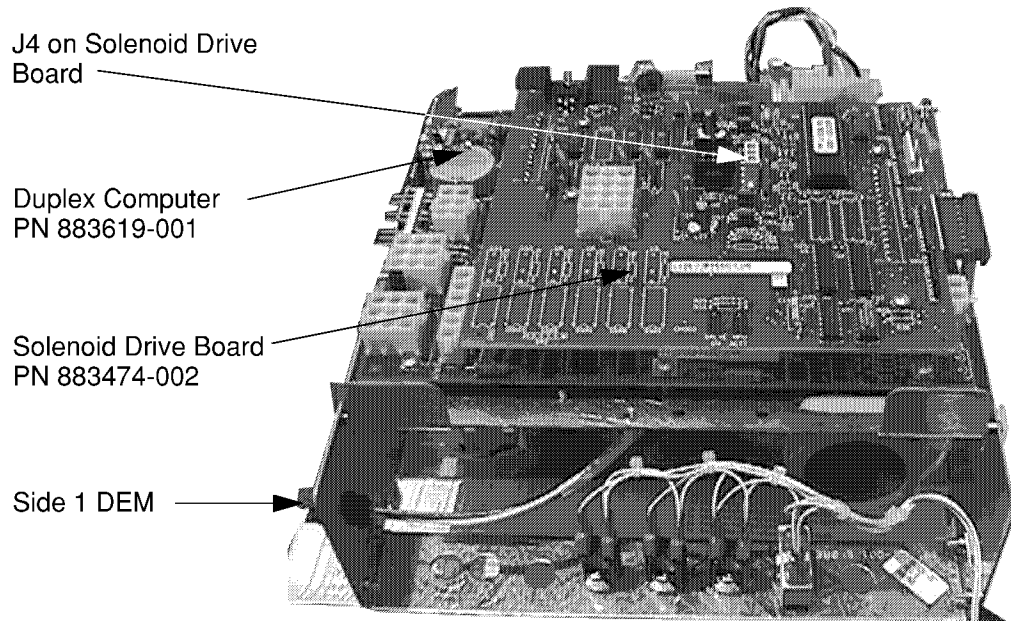

Figure 2-6 DEM
3. Install the new solenoid drive board from the kit PN 883474-002 onto the new duplex computer using the hardware from the old duplex computer. See Figure 2-6.